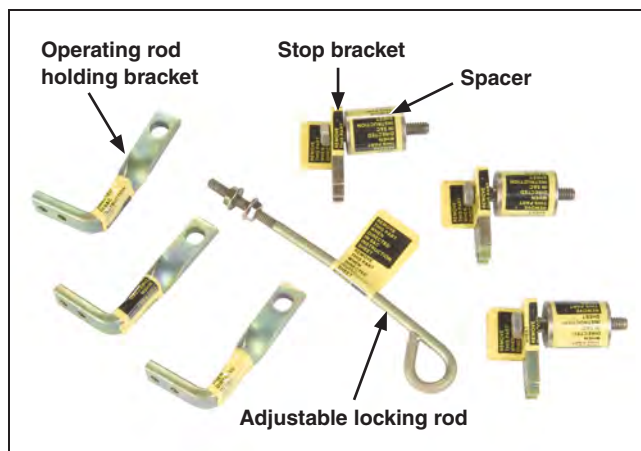
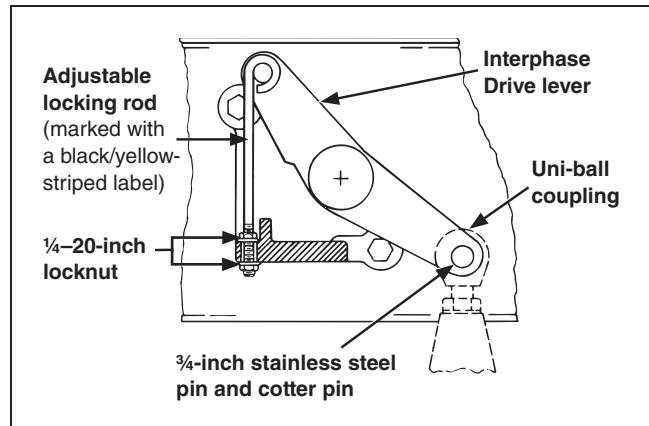

Figure 34. Checking the transition box and high-speed base for these shipping parts.
Figure 36. Making sure the interphase drive lever has been connected to the uni-ball coupling and the adjustable locking rod has been removed.
- The operating rod holding bracket, stop bracket, and spacer have been removed from the interrupter (See Figure 34.)
- The interphase drive lever has been connected to the operator uni-ball coupling (See Figure 36 on page 30.)
- The adjustable locking rod attached to the interphase drive lever has been removed (See Figure 34 and Figure 36 on page 30.)